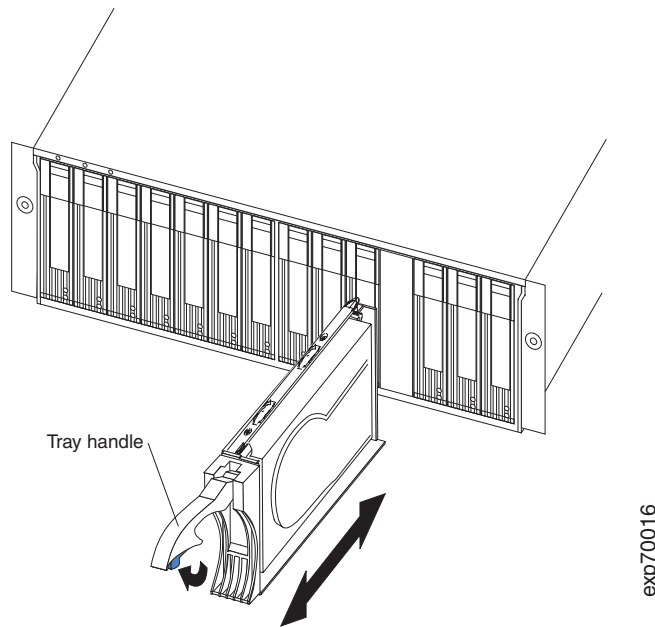

Figure 12. Removing drive CRUs
3. Pull the handle on the tray out so that it is in the open position and pull the drive out of the bay as shown in Figure 12.